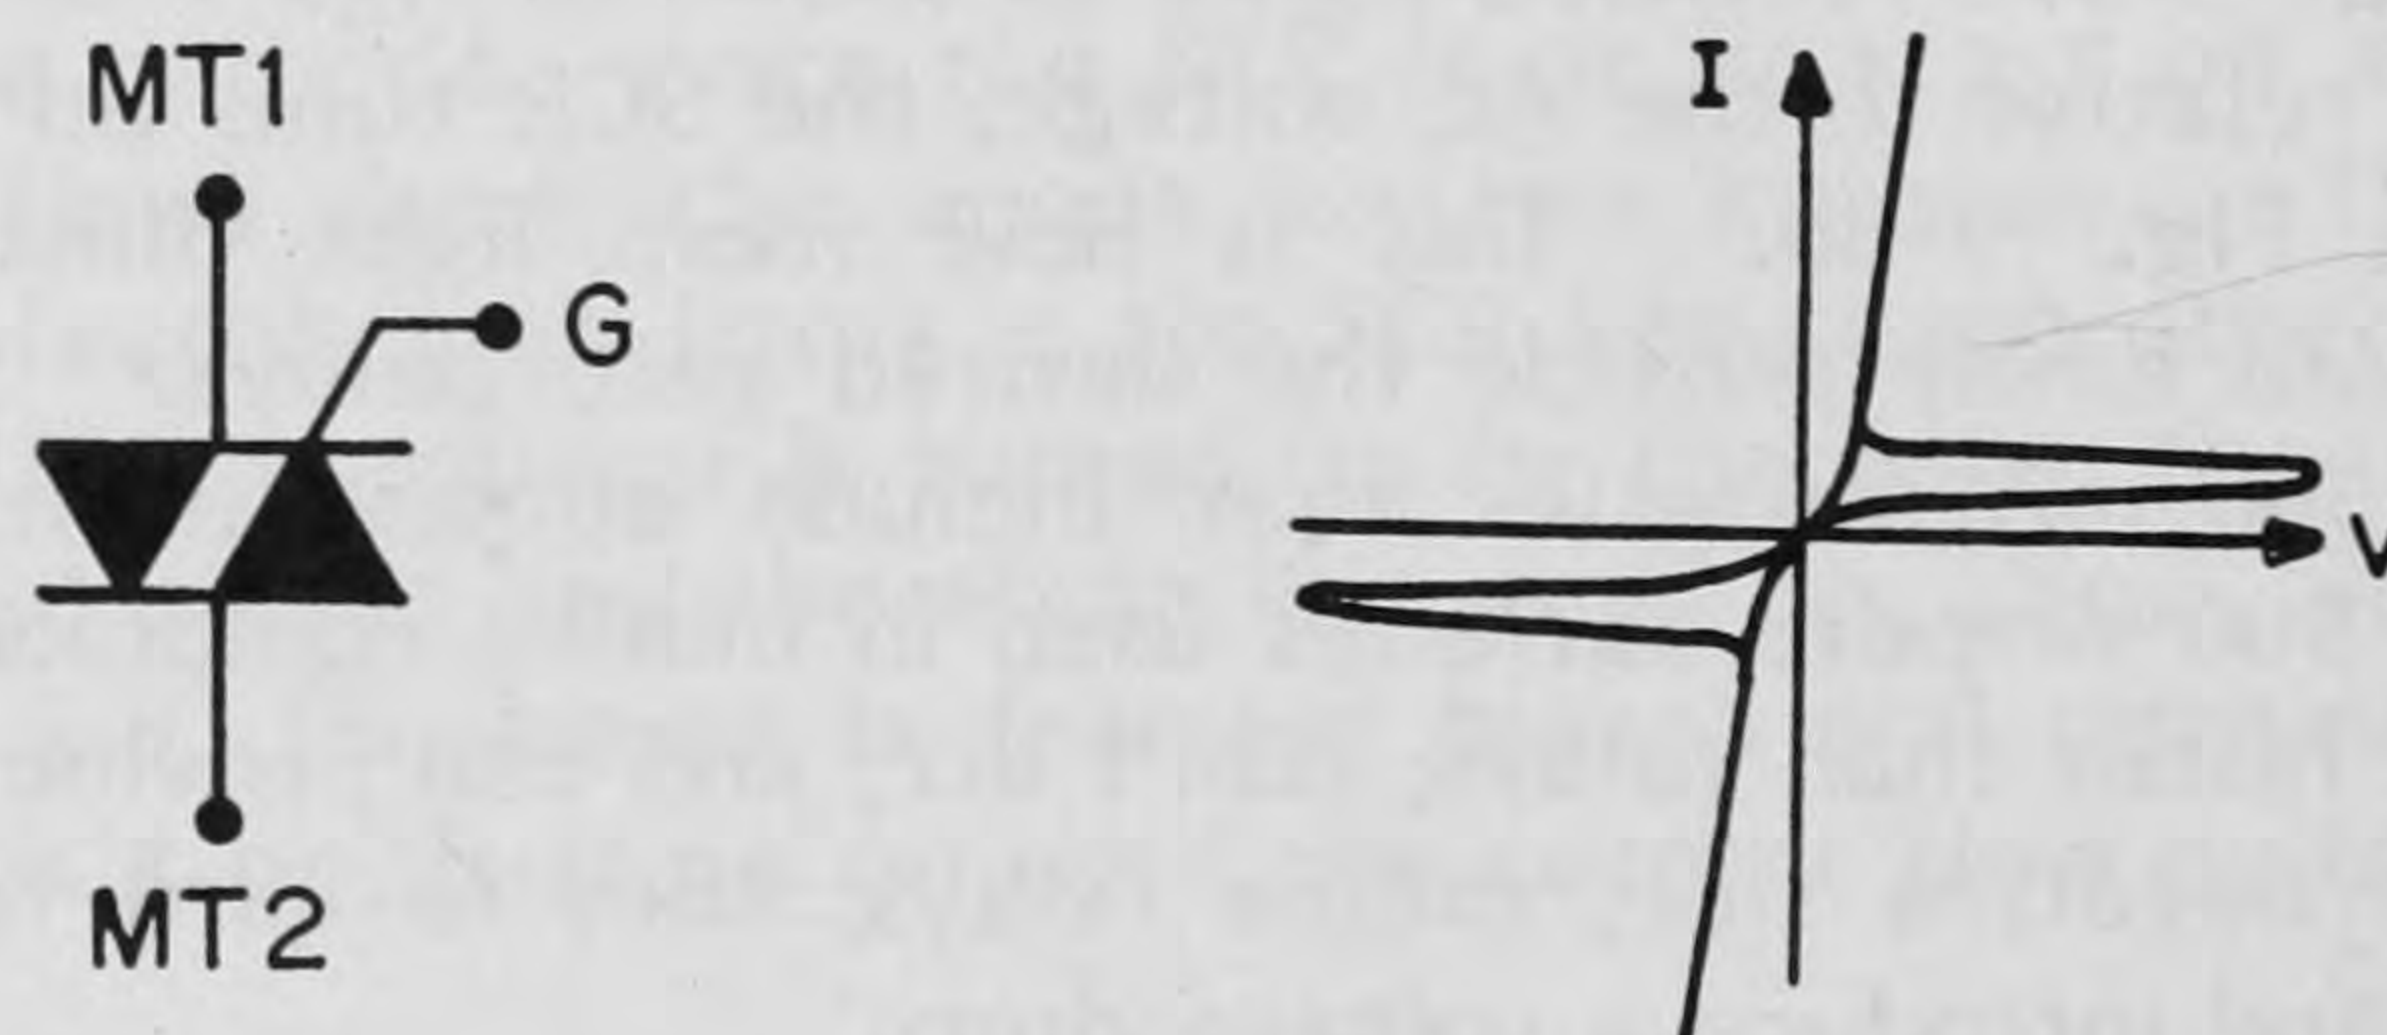

Fig. 9-9. Triac symbol and current/voltage characteristic. The triac acts as an AC switch.
If a controllable AC switch is desired, the triac shown in Fig. 9-9 may suffice. While the SCR rectifies an AC signal, the triac passes current in both directions when its gate (G) has the same polarity as its MT2 (main terminal 2) pin. This device acts very much like two SCR's of opposing polarity connected in parallel and triggered by a common gate. A triac can be driven by the MOC3011 optotriac to provide optical isolation as shown in Fig. 9-10. A problem with triacs can occur in switching inductive loads, where the current lags the voltage in time. The triac is supposed to turn off for currents less than the minimum holding current, just like an SCR. With an inductive load, however, the voltage increases to its maximum value just as the current goes to zero, so that suddenly the triac must block a large voltage. Triacs cannot block instantaneously, and consequently the rate of change in voltage across the triac must be kept below the manufacturer's specification. Otherwise the triac may stay on once triggered, regardless of the gate voltage. The rate of change of the voltage can be reduced by "snubbing" the triac with an RC network as shown in Fig. 9-11. Alternatively, you can buy a circuit similar to that shown in Fig. 9-11, all potted neatly in a case about 0.5"x1.5"x1.2", and known as a *solid-state relay*. It can be plugged into a standard pc board that's UL approved for up to 220 volts AC. The convenience may well be worth the extra cost.